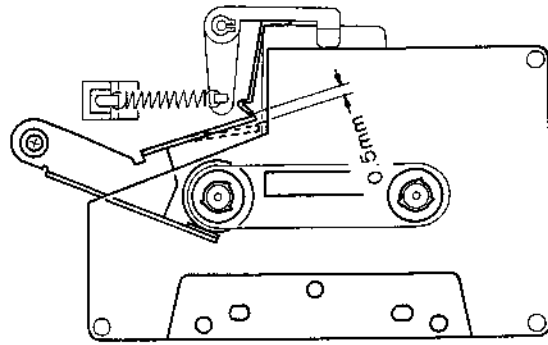
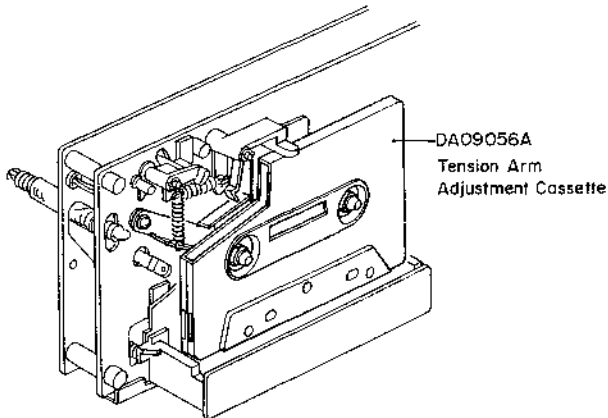

Fig. 4.19
Fig. 4.18
Refer to Figs. 4.18 – 4.21.
- (1) Load a Tension Arm Adjustment Cassette (DA 09056A) in the N-700ZXL referring to Fig. 4.18.
- (2) Set the N-700ZXL in Play mode.
- (3) Bend the Back Tension Arm with pliers so that the gap between the Cassette Holding Spring assembled on the Head Base Ass'y and the Back Tension Arm becomes 0.5 mm as shown in Fig. 4.19. Do not bend the pointed end of the Back Tension Arm.
- (4) Set the N-700ZXL in Stop mode, and remove the Tension Arm Adjustment Cassette (DA09056A), then set the N-700ZXL in Cue mode.